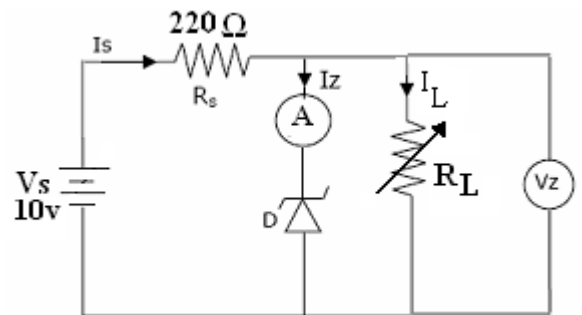

Figure 4
- 1- Set the DC power source ( $V_S$ ) to  $10.0\text{V}$  as shown in Figure 4.
- 5- Calculate the minimum value of the load resistance ( $R_{Lmin}$ ) in Figure 4, for which below this value the Zener diode will no longer provide voltage regulation. Verify your calculation experimentally. (Assume  $I_{Zmin} = 1 \text{ mA}$ ).
- 7- Calculate the value of the minimum series resistor ( $R_{S-min}$ ) in Figure 4, at no load condition ( $R_L = \infty$ ). (Assume  $I_{Z(max)} = 25 \text{ mA}$ ).